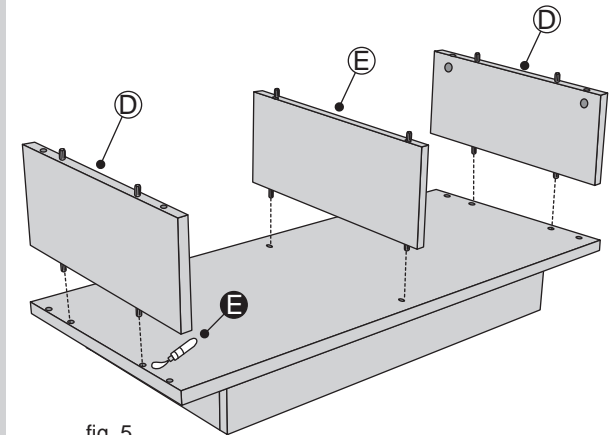

fig. 5
2. Place a small amount of Glue **E** into the dowel holes and onto the joints surfaces. Fix the Side Panels **D** and Middle Panel **E** onto the unit. See fig. 5.